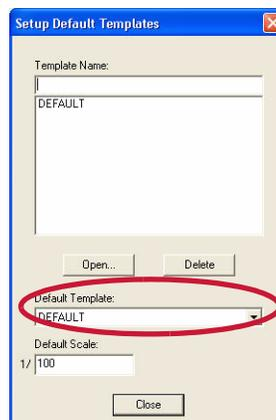

Figure 1-1 The Setup Default Templates dialogue box
2. In the **Default Template** area, check that **DEFAULT** is selected, as shown in **Figure 1-1**.